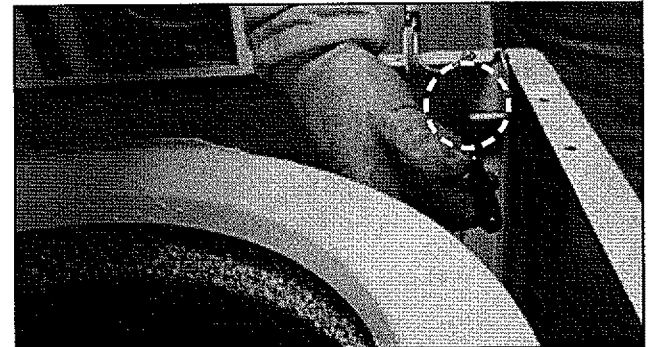

FIGURE 5
6. Using a 5/16" socket, remove the two (2) front panel screws. See *Figure 5*.